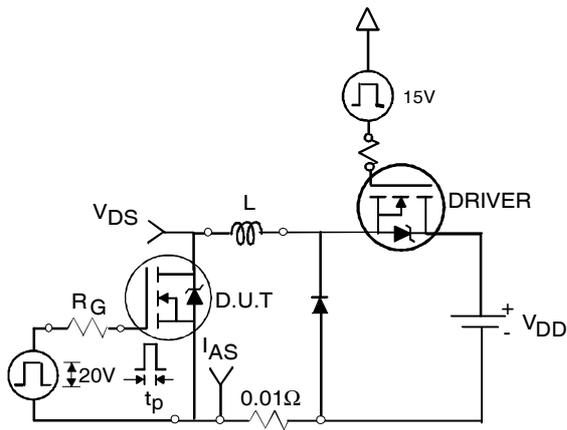

Fig 19a. Unclamped Inductive Test Circuit
3. Equation below based on circuit and waveforms shown in Figures 19a, 19b.